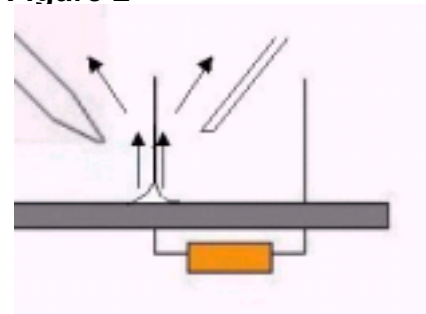

Figure 3
8. Only apply sufficient solder to form an adequate joint (see Figure 3 and 4).